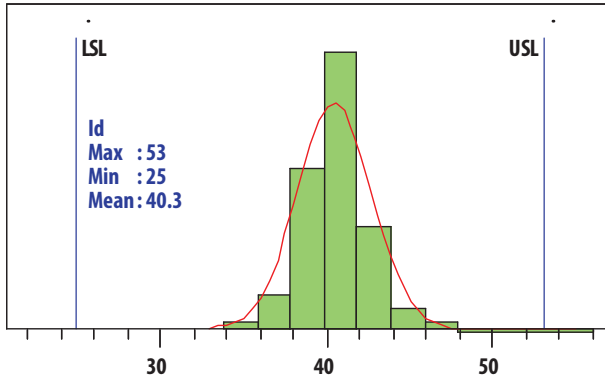

Figure 1. Idd @ 900 MHz, Mean = 40.3
1. Measurements at 900 MHz obtained using demo board described in Figure 1.